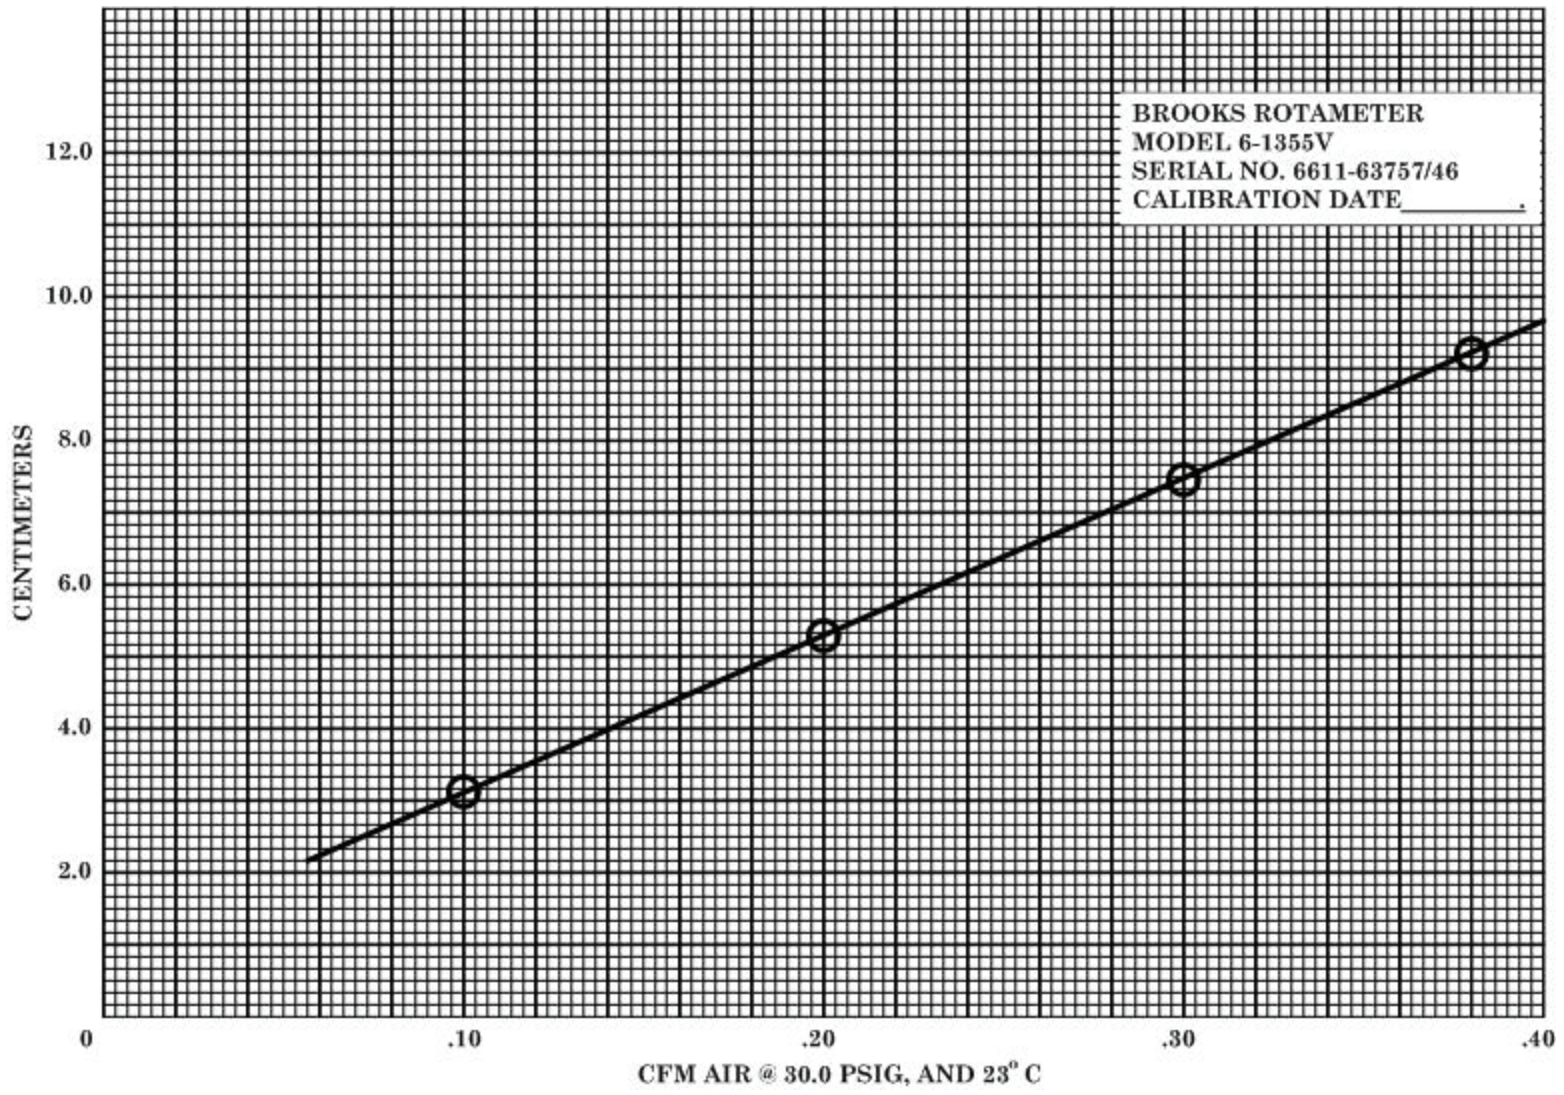

Figure 2. Sample calibration curve graph.
(4) Using sing calibration curve K-4881 furnished with flow meter, determine and record the flow meter cfm indication.
(5) Using graph paper plot the exact point of intersection of the TI centimeter scale indication and the indication recorded in (4) above. See (fig. 2) for sample calibration curve graph.
(6) Repeat technique of (3) above using 60.5 mm, 96.0 mm and 123.0 mm respectively, plotting each indication on graph paper as described in (4) and (5) above.